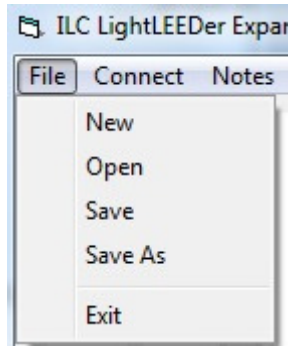

Figure 10 File Pull-Down Menu
1. From the title bar as shown in figure 10 select “File”, and then “Save As”. Name the file with a unique name and save. Once a file has been saved to a file, the “Save” option can be used. The program will be saved as a .CDF file.